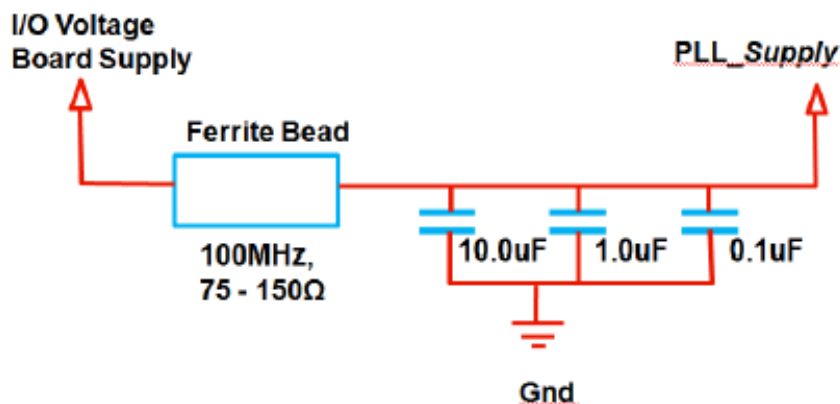

Figure 3. Example Filter Network for PLL Supply
- If the VAA_PLL supply is shared with other circuits on the PCB, it is recommended to include a ferrite filter circuit on the printed circuit board (PCB) as shown in Figure 3.